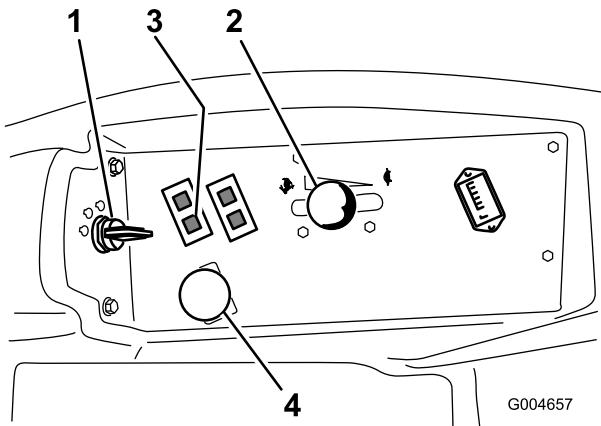

Figure 16
5. Move the throttle lever midway between the Fast and Slow positions (Figure 16).